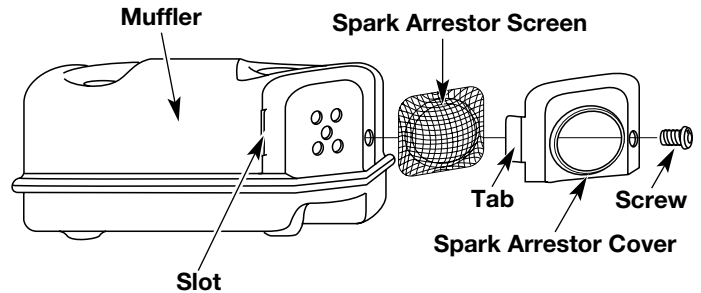

Fig. 56
2. With a flat blade screwdriver or Torx T20 bit, remove the screw attaching the spark arrester cover to the muffler (Fig. 56).